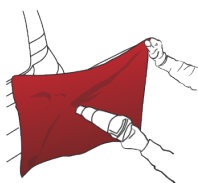
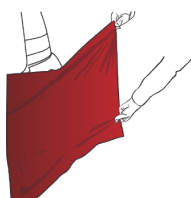

Figure 16
Figure 17
- › Heat the vinyl (FIG. 16) to a temperature ranging from 30 °C to 40 °C (from 86 °F to 104 °F), then stretch the film so as to completely wrap the convex surface. (FIG. 17)
⚠ *Take particular care when heating the stretched film (FIG. 16) (FIG. 20). The hot air gun or the gas torch must never be held at a right angle to the surface of the film. It should be inclined so as to heat a larger surface area. Keep the hot air gun moving all the time. Heating the film from a reduced distance and over a prolonged time may irreversibly damage the film.*